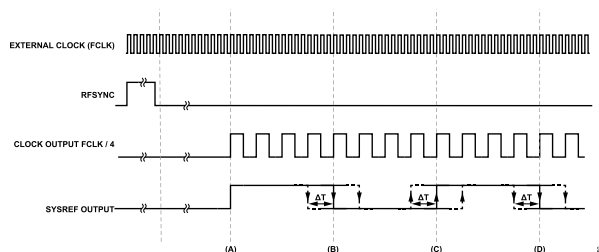

Figure 50. Timing Diagram of Intermittent Edge Shift Behavior
It is observed that some internal blocks are missing 4 VCO cycles when aligning the outputs at certain conditions. The first rising edge after synchronization or pulse generation request is always aligned to other clocks and the division ratio is correct. However, at certain conditions, the first falling edge shifts ± 4 VCO (ΔT) cycle, intermittently. Because of this shift, the whole pulse train becomes shifted by the same number of VCO cycles at the start of the life. Figure 50 shows the timing diagram of this behavior. When outputs are synchronized, it can be seen that the first rising edge (A) of SYSREF clocks occurs at the same rising edge of the clock cycle. The first falling edge (B) and the rest of the pulse train are affected by this shift. If only the first rising edge of the SYSREF clock is important and used, this behavior does not affect the performance of the HMC7044. Continuous SYSREF clock generation is not affected by this edge shift behavior and works normally.